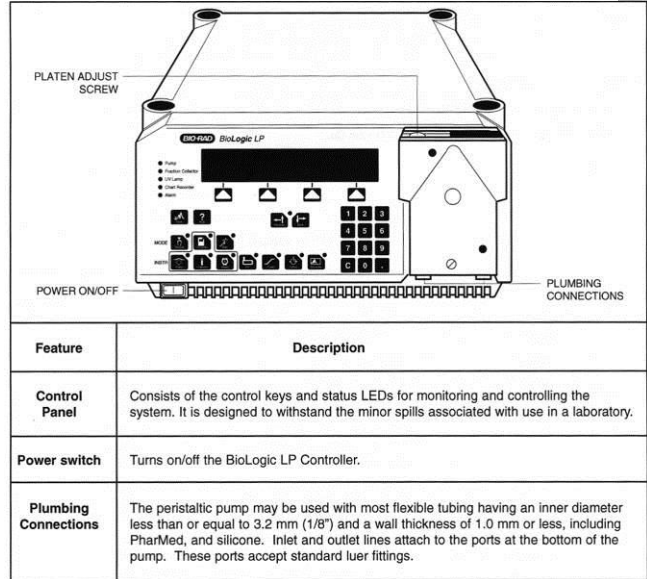

Figure 1: Controller Front Panel
- 9.1. Figure 1: Controller Front Panel